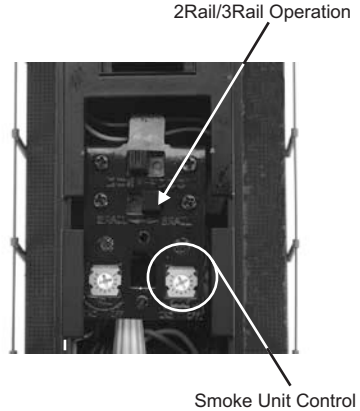

Figure 4: Smoke Unit Control + 2Rail/3Rail Switch
(As shown in figure 4, the 2Rail/3Rail switch is located underneath the roof hatch). Your locomotive can be configured to operate on 2-Rail or 3-Rail track. From the factory the locomotive is configured to operate on 3-Rail Track. To configure the locomotive for 2-Rail track operation, please do the following:
2. Change the power input from 3-Rail to 2-Rail as seen in figure 4 (above).